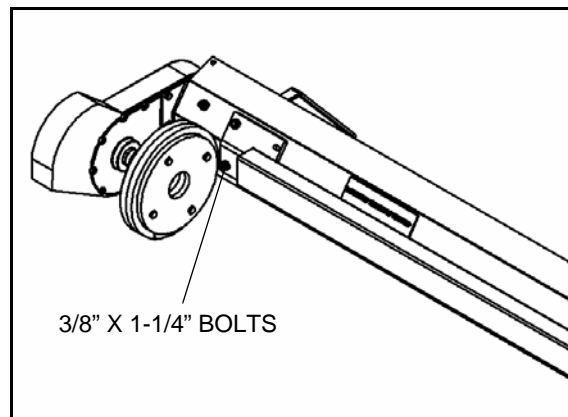

Figure 4.26
13. Insert two 3/8" x 1-1/4" bolts and flange nuts to join backboard to other end of backboard stiffener. Go back and tighten all bolts (Figure 4.26).